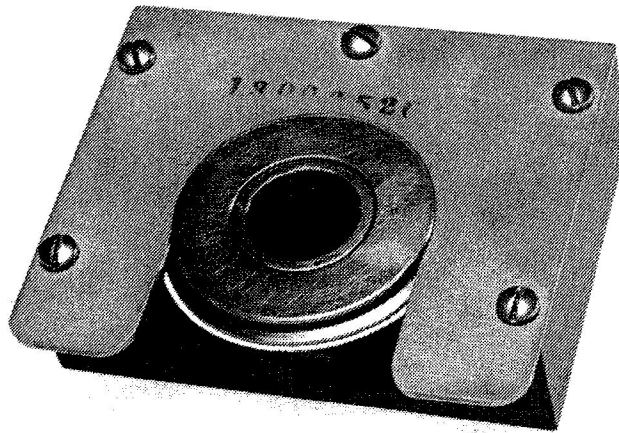

Figure 3-2. Blade and Adapter in Disassembly Tool
- a. Place the blade and adapter in the disassembly tool as shown in figure 3-2.